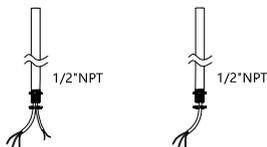

Figure 8
Step1. Unscrew the nuts on 1/2" NPT. (Figure 8)